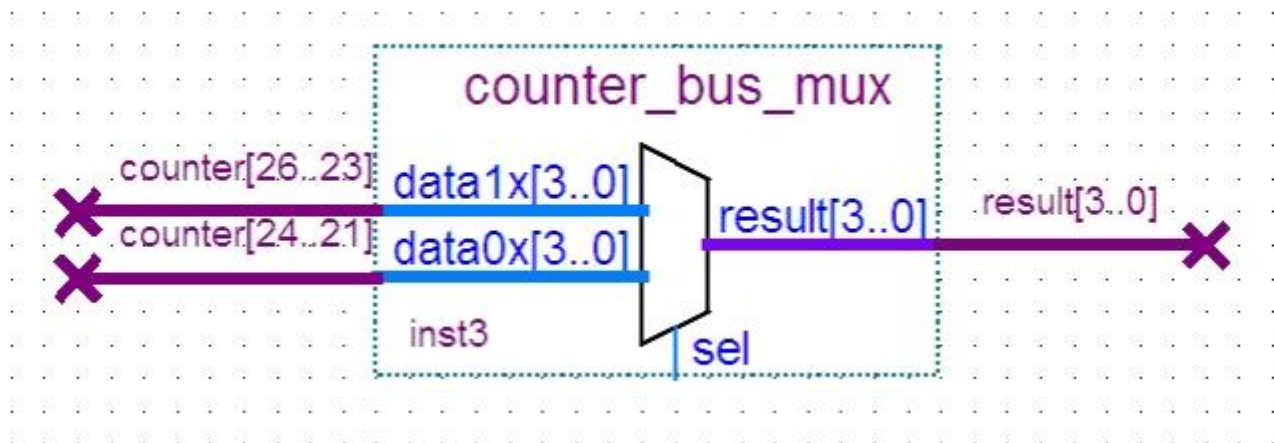

Figure 3-26 Renamed counter_bus_mux Bus Lines
- h. Click OK. **Figure 3-26** shows the renamed buses.